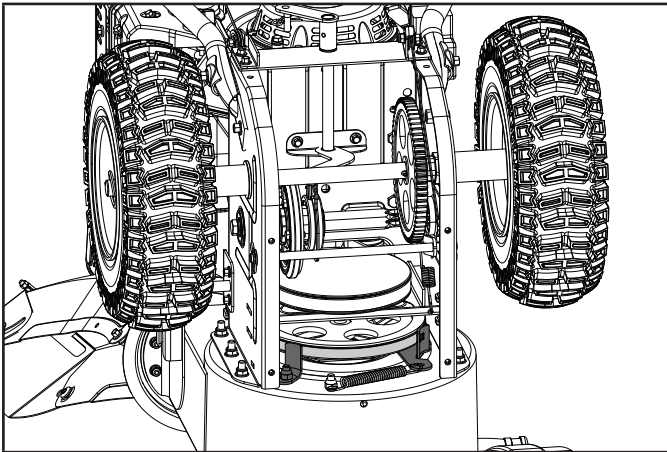

Figure 28
8. Ensure belt is seated below the belt guide on the idler pulley pivot arm (Fig. 28).